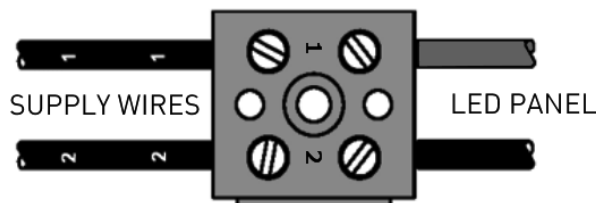

Fig 6
i) Follow "Glass Lens Replacement" steps i to iii above to remove the lens, ii) Loosen and remove the screws (WF-442) retaining the LED board. Remove the two right-hand lens screws completely and now remove the six W-414 screws retaining the lamp bottom plate, iii) The LED board, lower plate, clamping plate and connector block can now all be separated from the head. [Take care not to damage the LED lenses when handling], iv) the LED panel can now be disconnected from the connector block and the new LED board connected Red to No.1, Black to No.2 See Fig 6